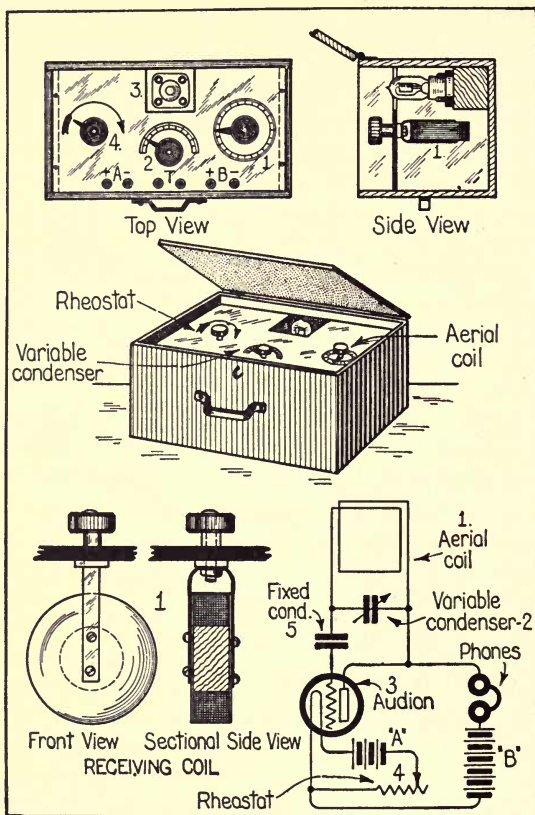

FIG. 118.
Two and a half inches from the top a  $\frac{1}{4}$  inch Bakelite panel is mounted by means of  $\frac{1}{2}$  inch cleats. On this panel are mounted the following instruments, as shown in Fig. 118: (1) The loop coil which is used for an aerial; (2) a variable condenser of .001 mf. capacity for tuning; (4) a rheostat for the filament of the audion bulb. The bulb itself (3), or, rather, the socket for the bulb, is mounted in a recess 4 inches below the top of the panel, as shown. Binding posts are provided for attachment of "A" and "B" batteries and also the telephones, for which a space is provided by the setting of the panel below the top of the case.